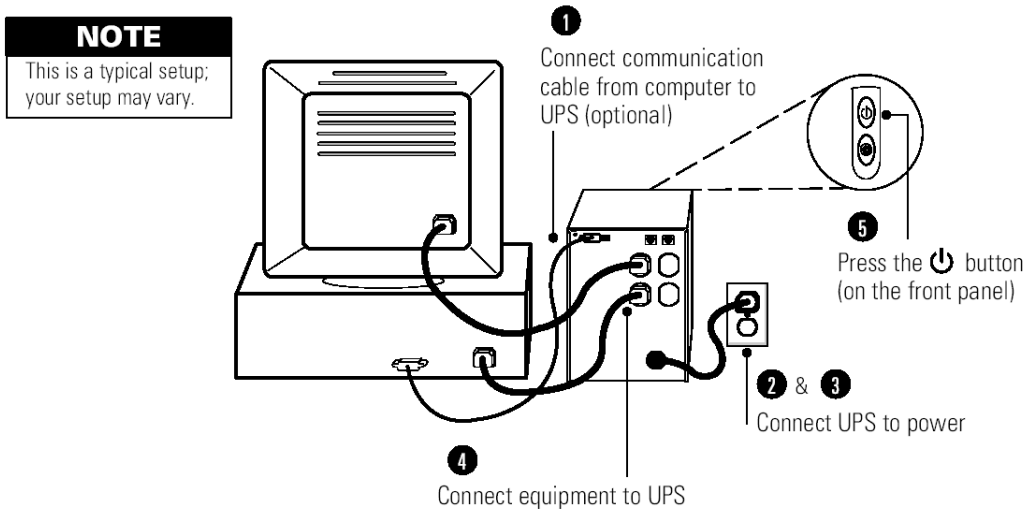

Figure 2. Typical UPS Installation
The following steps explain how to install the UPS. Figure 2 shows a typical installation only. See “UPS Rear Panels” on page 6 for the rear panel of each model.
5. Start the UPS by pressing the  button as shown in Figure 2. The  indicator illuminates, indicating that power is available from the UPS output receptacles.